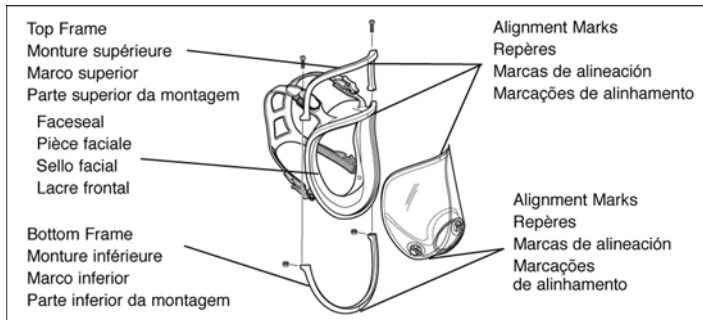

Fig. 3
3. Remove the (2) phillips screws from the lens/faceseal frame. Pull the frame top and bottom away from faceseal.
5. Place new lens and faceseal together aligning marks at top and bottom. Position top and bottom frame, again aligning marks top and bottom. (Fig. 3) Install and securely tighten screws. Make certain alignment marks are properly aligned top and bottom with all components.